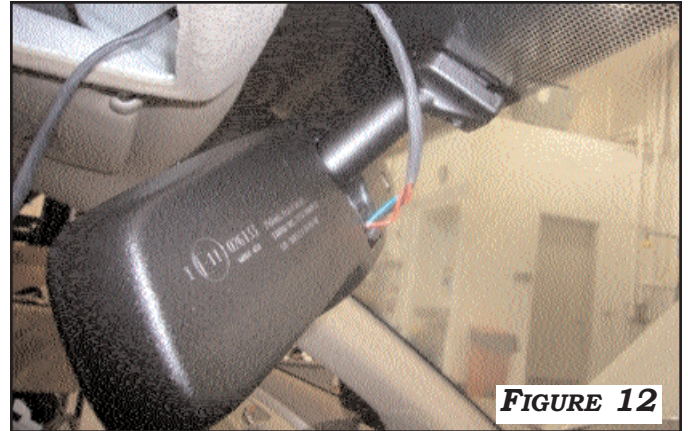
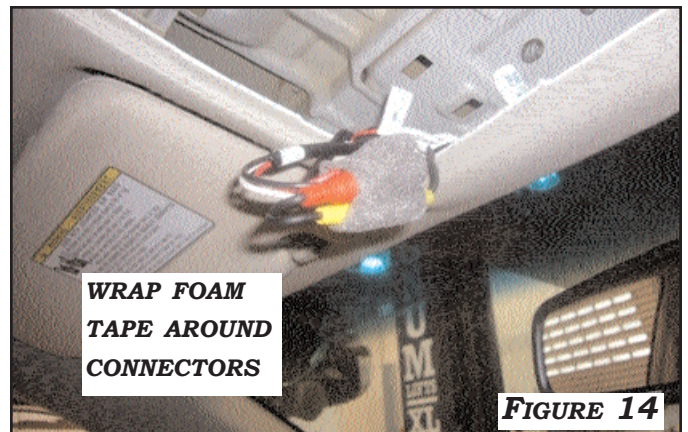

FIGURE 12
FIGURE 14
1. MOUNT REARSIGHT MIRROR ON EXISTING WINDSHIELD LUG AND TIGHTEN SCREW. **FIGURE 12**
3. CONNECT **MALE RCA** VIDEO CONNECTOR OF CAMERA EXTENSION HARNESS TO **VIDEO** INPUT (YELLOW CONNECTOR) OF MIRROR HARNESS. CONNECT **MALE DC** POWER CONNECTOR OF CAMERA EXTENSION HARNESS TO CAMERA **POWER** OUTPUT (BLACK CONNECTOR) OF REARSIGHT MIRROR HARNESS. CONNECT RED, WHITE, AND BLACK WIRES OF POWER EXTENSION HARNESS AS SHOWN IN **FIGURE 12**. WRAP ALL **RCA** AND **DC** CONNECTORS WITH THE FOAM TAPE PROVIDED. **FIGURE 14**